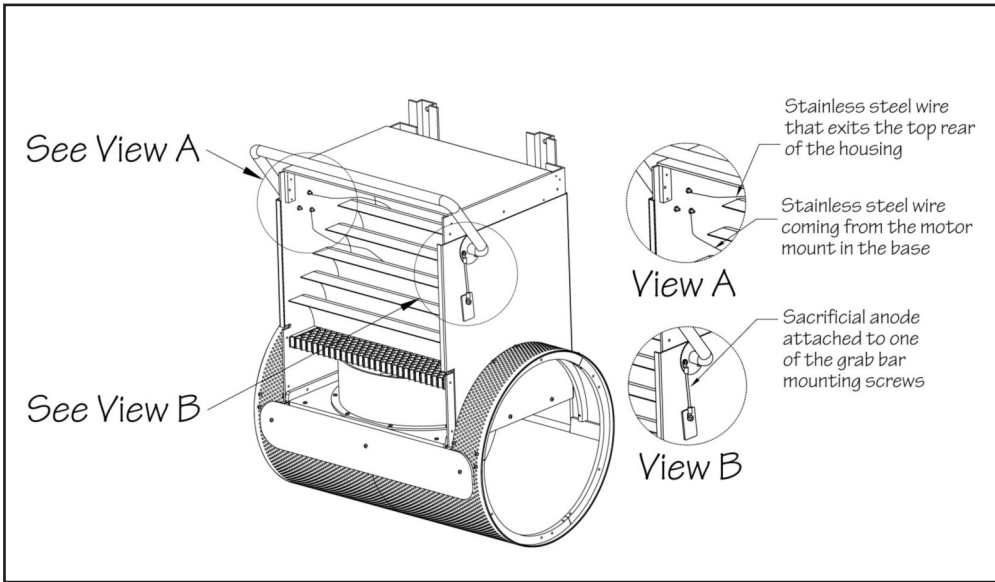

Fig. 6.8
6.10 Install the stainless steel grab bar to the upper housing using the provided machine screws and lock nuts. Feed the stainless steel wire attached to the motor mount up through the horizontal grill. Then feed the wire up between two of the turning vanes. Place the stainless steel wire (from the motor mount in the base) around the bottom screw on the left side before tightening down on the nut. Place the second stainless steel wire (that exits the top rear of the upper housing) around another screw before tightening down on the nut. On the opposite side of the grab bar, secure the provided sacrificial anode under one of the grab bar mounting screws (Fig 6.8).